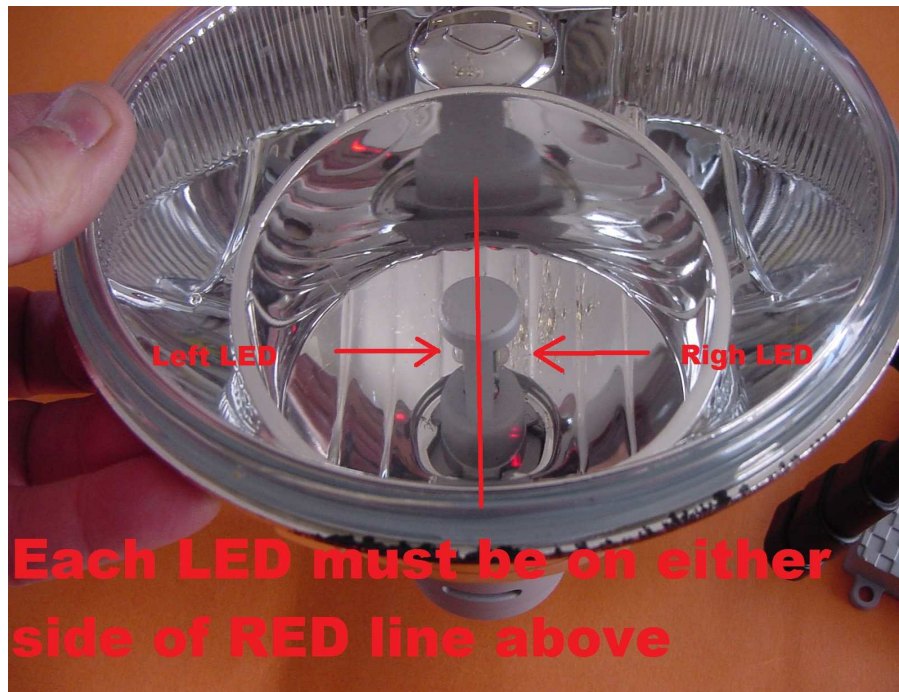

Figure 2
- 3). Once the HIGH beam assembly is installed, verify that the LED's are aligned from left to right as shown in Figure 2. LED Bulb can be installed wrong with LED's at a slant (45 degrees). So remove, turn and realign so that it is aligned as the image below. Turn LED bulb clockwise until locked in place.